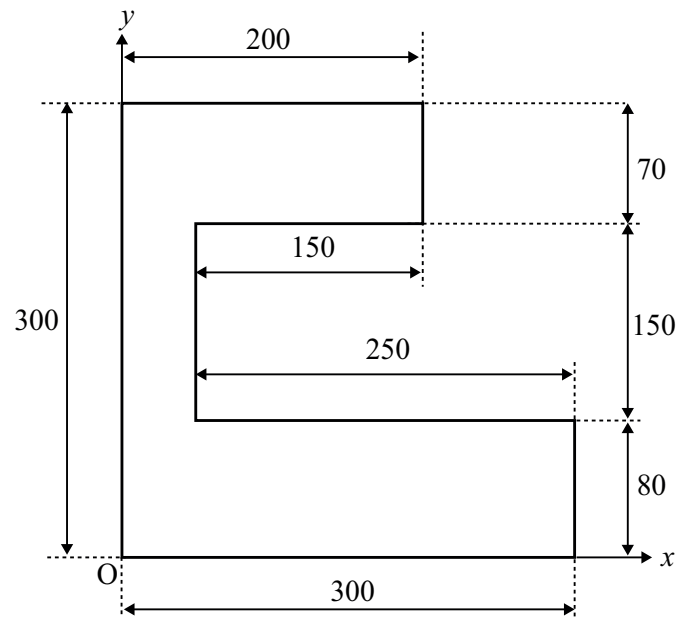

Fig. 1
- 1 (a) Fig. 1 shows a steel plate aligned within a Cartesian coordinate system, (x, y) , with the origin at point O. Dimensions are shown in millimetres.